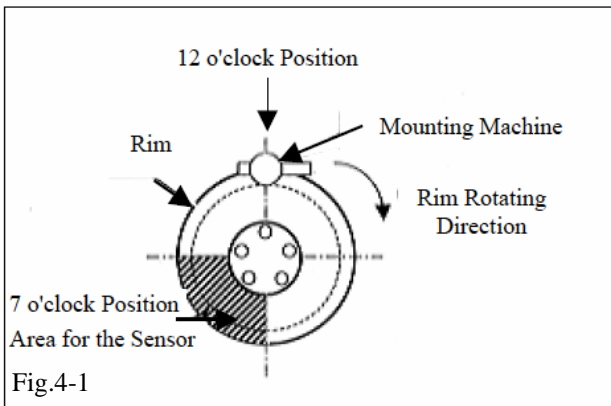

Fig.4-1
- (b) Position the wheel on the mounting machine with the sensor at ~ 7 o'clock position (shaded area in Fig. 4-1)